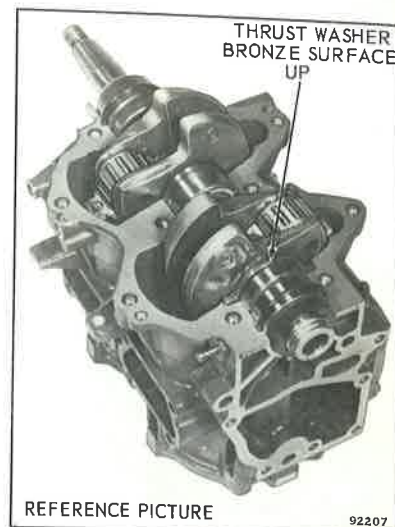

Figure 5-24. Crankshaft Installed
e. Apply a coat of OMC Needle Bearing Grease to crankpins. Install 2 roller bearings and remaining retainer half on each rod. Place the remaining 6 roller bearings in each retainer. See Figure 5-24.